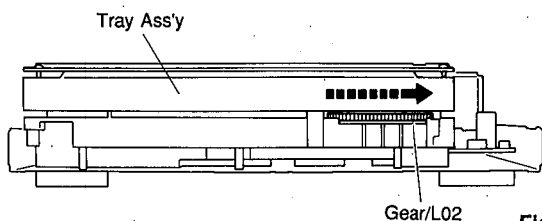

Fig. 2
- b. Turn Gear/L02 as shown in Fig. 2 counter clockwise gradually till immediately before the tray starts to move and stop it there.